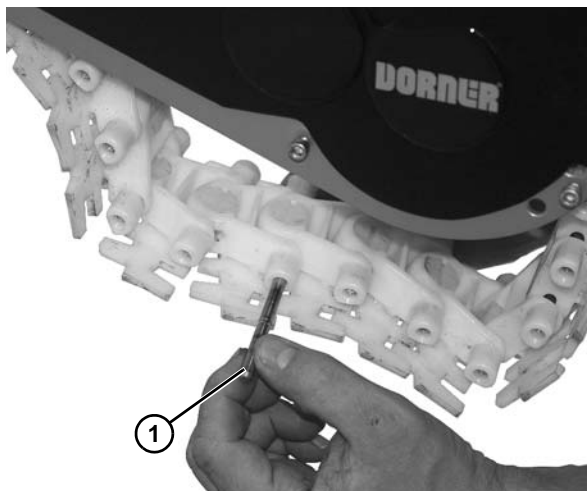

Figure 109
1. Use chain removal tool or a punch and hammer to push the chain rod (**Figure 109, item 1**) out.